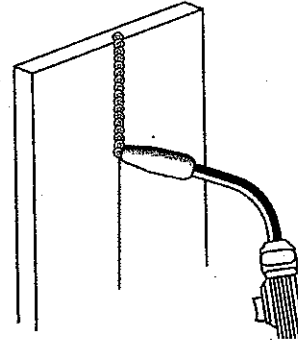

Figure 14. Vertical Position Weld
3. The **VERTICAL POSITION** (Figure 14) is the next most difficult position. Pulling the gun from top to bottom may be easier for many people, but in some instances it can be difficult to prevent the puddle from running downward. Pushing the gun from bottom to top may provide better puddle control and allow slower rates of travel speed to achieve deeper penetration. When vertical welding, angle B (see **POSITION OF THE GUN TO THE WORK PIECE** - p14) is usually always kept at zero, but angle A will generally range from 45 to 60 degrees to provide better puddle control.